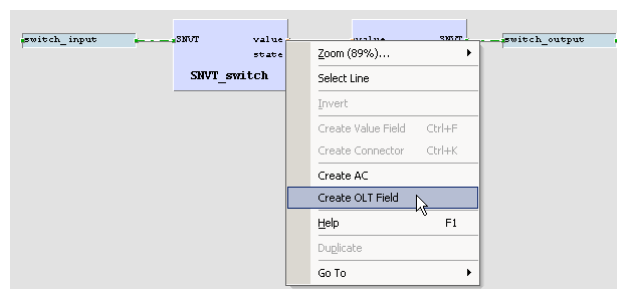

Figure 26: Create online test fields
- For later debugging, it is good practice to add online test fields to the drawing, to display the current value of the signals during online test. To do this, right-click on the value output of the left function block and select **Create OLT Field** from the context menu, as shown in Figure 26.